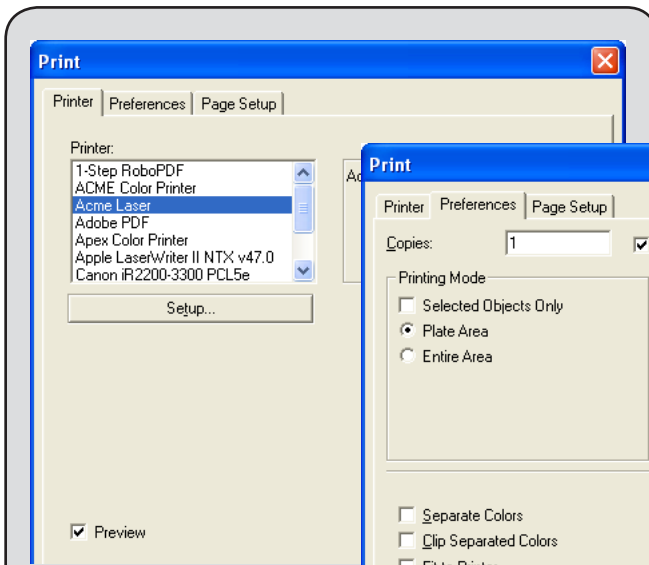

Fig. 21 - The **Printer** tab is used to select the laser engraver and adjust its output properties.
3. Tick the **Preview** checkbox (Fig. 21).